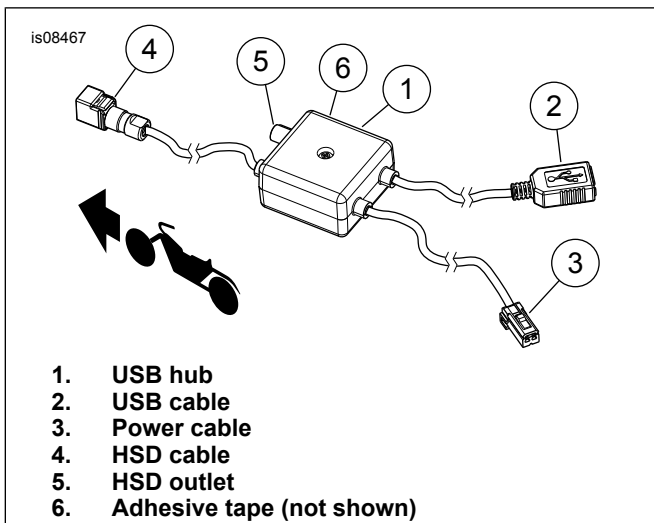

Figure 2. USB Hub Wiring Diagram
2. See Figure 2. Install power cable (3) to accessory power [299] (1, Figure 1).
3. Install HSD cable (4, Figure 2) to HSD connection (3, Figure 1).
4. Install USB cable (4, Figure 1) to HSD port (5, Figure 2).
6. Route the USB cable (2, Figure 2) along the tray along the frame and over fender into the Tour-Pak or saddlebag. Secure as needed with cable straps.
2. Complete the routing of USB cable (2, Figure 2) following the routing of the existing power port wire.